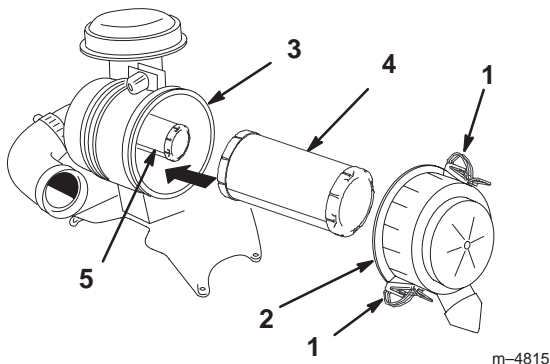

Figure 35
2. Release the latches on the air cleaner and pull the air cleaner cover off of the air cleaner body (Fig. 35).
4. Gently slide the primary filter out of the air cleaner body (Fig. 35). Avoid knocking the filter into the side of the body.
2. If the safety filter is being replaced, carefully slide it into the filter body (Fig. 35).
3. Carefully slide the primary filter over the safety filter (Fig. 35). Ensure that it is fully seated by pushing on the outer rim of the filter while installing it.
4. Install the air cleaner cover with the side indicated as **UP** facing up and secure the latches (Fig. 35).